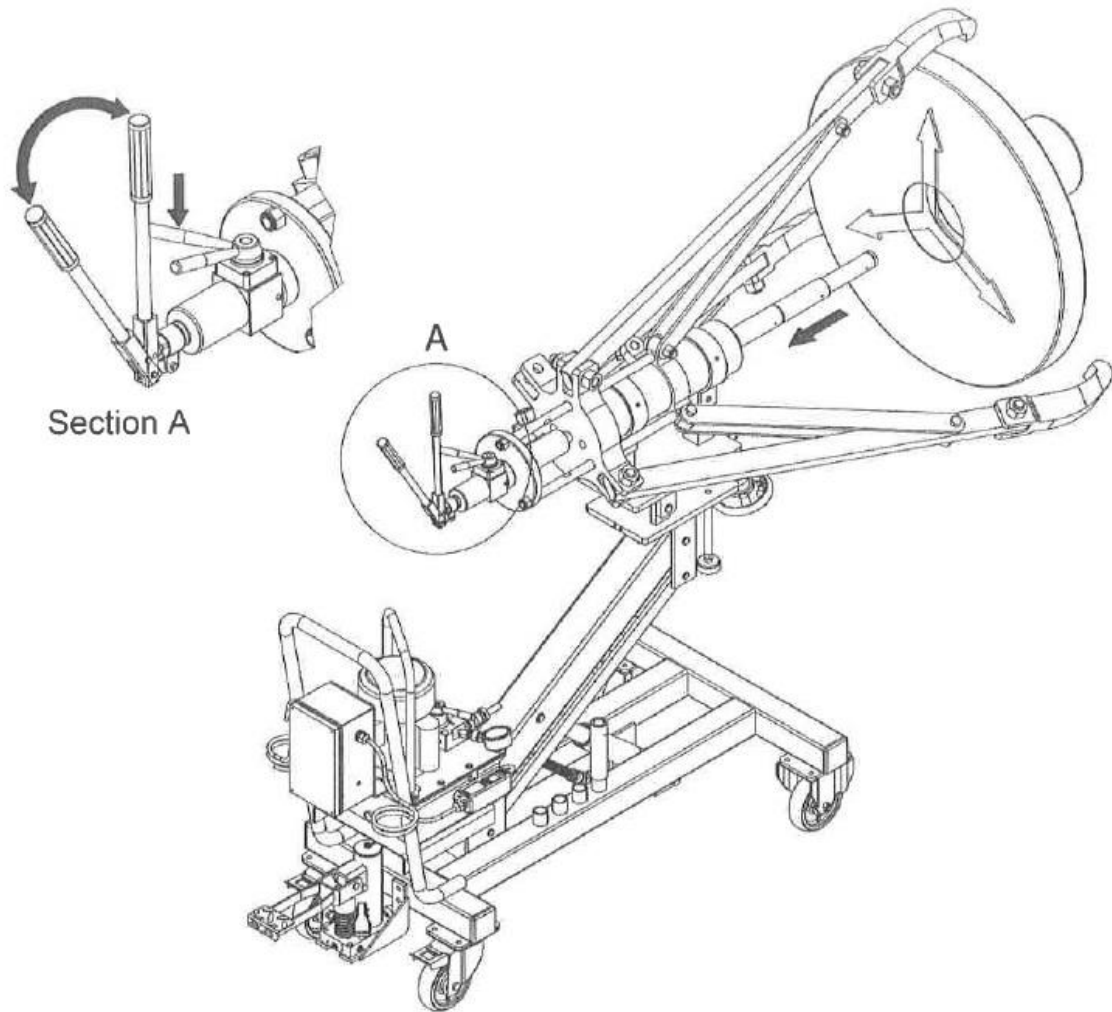

Figure 8 – Opening the Jaws
5.4.3 Rotate the control valve on the pump in a counter clockwise direction to open the jaws (see Figure 8).